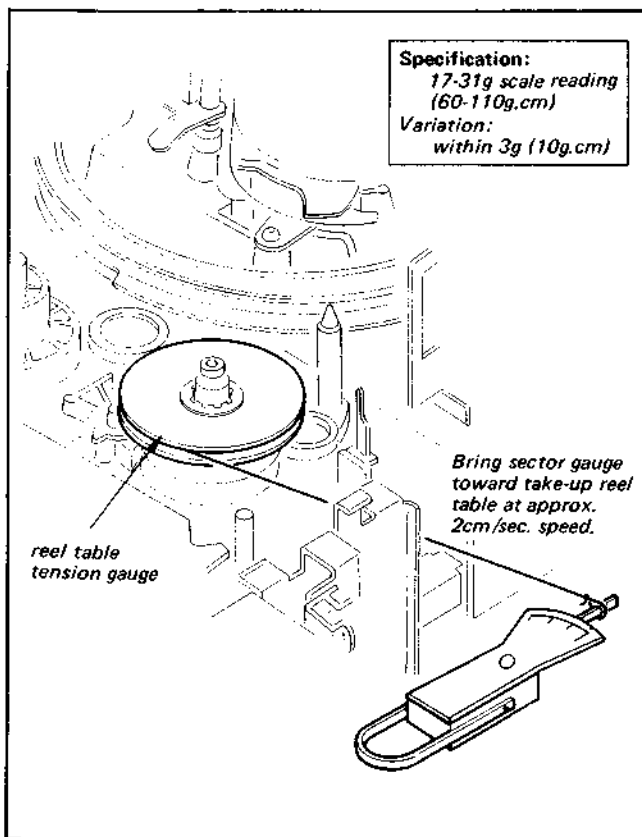

Fig. 3-38. Check of take-up torque
4. Attach the reel table tension gauge (Tool Kit Ref. No. J-5) on the take-up reel table as shown in Fig. 3-38.
7. Bring the sector type gauge toward the take-up reel table at a speed of approx. 2cm/sec. (8 inch/sec.) as shown in Fig. 3-38. Confirm that the gauge reading is within the specification. If not, replace the FWD limiter assembly and make the check again.